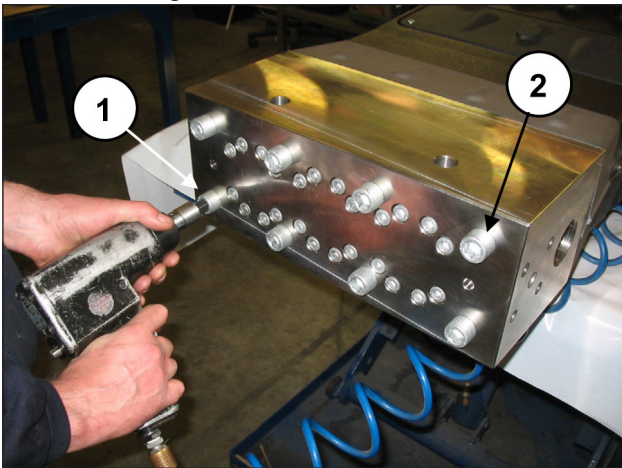
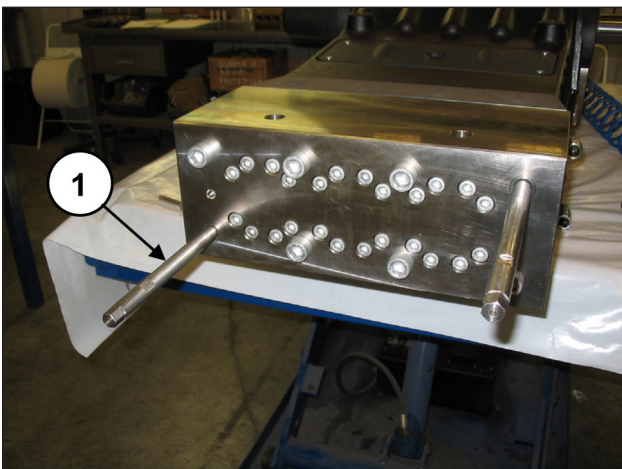

Fig. 95
Fig. 96
Unscrew the two diametrically opposed M16x320 head fixing screws (pos. ① and ②, Fig. 95) and replace them with two screw-slave pins (code 27540200) (pos. ①, Fig. 96), then take out the remaining screws.